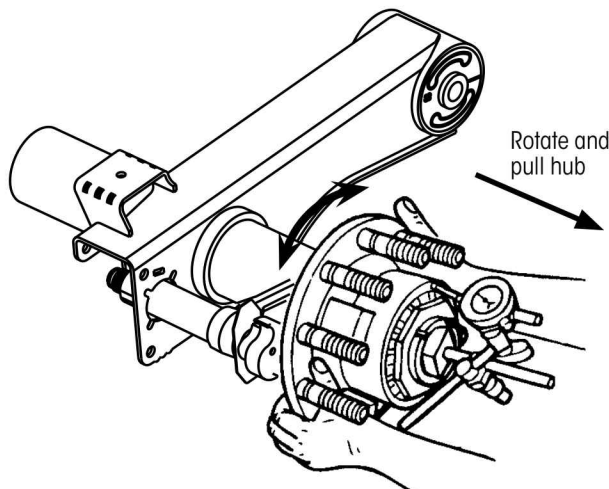

Figure 6: Checking outward end-play
9. While still grasping hub (Figure 6) **pull** hub outward while **rotating** hub slightly in both directions (between two hub cap fastener holes) until dial indicator reading remains constant. **Record** reading.